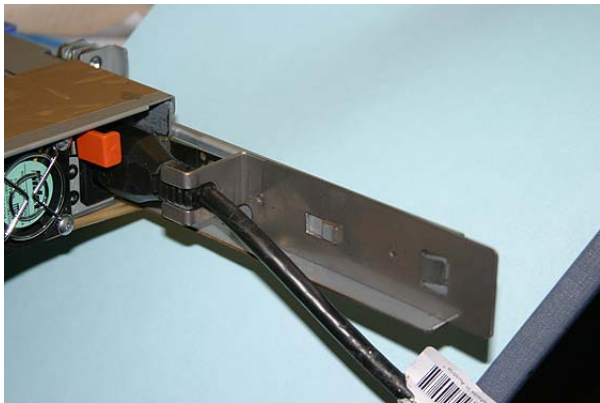

Figure 19. The SAN Volume Controller 2145-8F4 with cable retention bracket attached
- Position the cable retention bracket against the support rail and attach the bracket onto the slot in the rear of the rail. Figure 19 provides a view of the cable retention bracket attached to the SAN Volume Controller 2145-8F4.